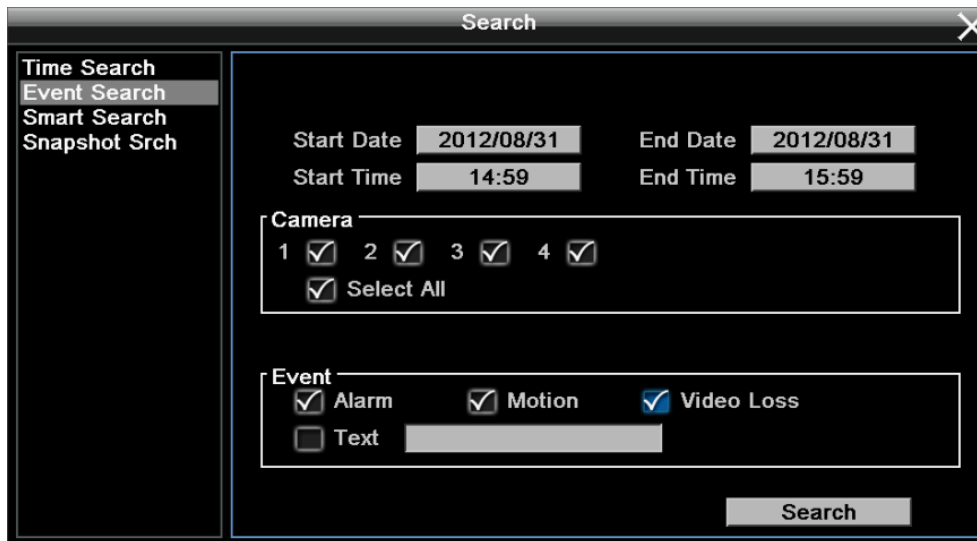

Figure 5-5
**Search:** Click to start searching. The search results will be listed in the Event List menu (see Figure 5-5).